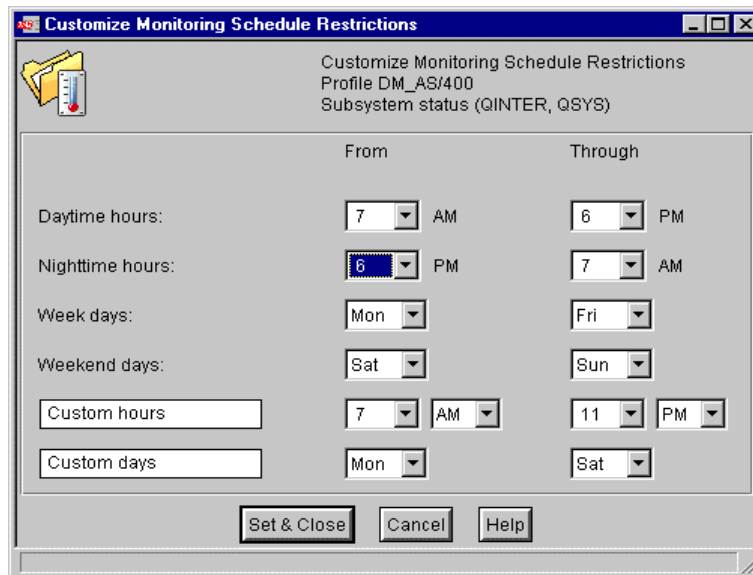

Figure 282. Customizing the QINTER monitor schedule
15. Click on the **Customize** button to open the Customize Monitoring Schedule Restrictions screen. Set the Custom Hours field to run the monitor from 7:00 a.m. through 11:00 p.m. and the Custom Days field from Monday through Saturday each week as shown in Figure 282 on page 449. The other default settings will be ignored. Click on **Set & Close** to save the schedule.